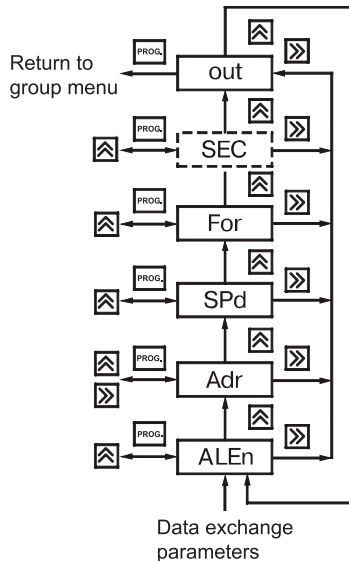

Figure 27.
6.1.10. «**Group_E**» group (figure 27) is used to set instrument network address **Adr**, its digit capacity **A.LEn**, data exchange rate **SPd** and sending format **For** (if RS-485 interface is present).